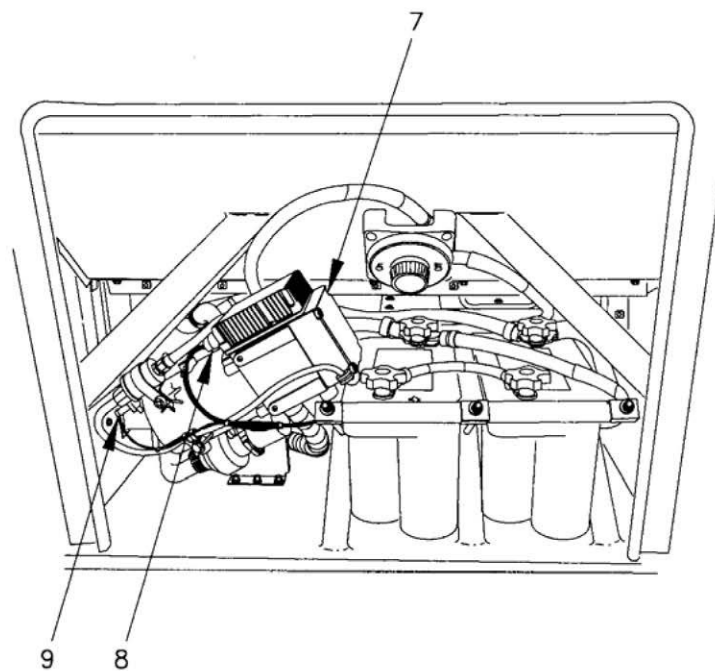

Figure 1. Winterization Wiring Harnesses.
6. To remove heater to heater control box wiring harness, disconnect connector P27 (Figure 1, Item 5) from connector J27 (Figure 1, Item 6) on rear of winterization heater control box (Figure 1, Item 3).
7. On terminal board TB5 (Figure 1, Item 4), tag and disconnect spade terminal from TB5-17B.
8. On winterization heater (Figure 1, Item 7), disconnect connector P28 (Figure 1, Item 8) (FO-1, Sheet 6) from top of heater and connector P29 (Figure 1, Item 9) (FO-1, Sheet 6) from end of heater.
1. To install winterization heater to heater control box wiring harness, connect connector P29 (Figure 1, Item 9) (FO-1, Sheet 6) to end of heater (Figure 1, Item 7) and connector P28 (Figure 1, Item 8) (FO-1, Sheet 6) to top of heater.
2. On terminal board TB 5 (Figure 1, Item 4), connect spade terminal to TB5-17B.
3. Connect connector P27 (Figure 1, Item 5) to connector J27 (Figure 1, Item 6) on rear of winterization heater control box (Figure 1, Item 3).
4. To install winterization power wiring harness, connect three spade terminals to TB5-17A, TB5-16A, and TB5-15A on terminal board TB5 (Figure 1, Item 4).
5. Connect connector J26 (Figure 1, Item 2) to connector P26 (Figure 1, Item 1) on rear of winterization heater control box (Figure 1, Item 3).